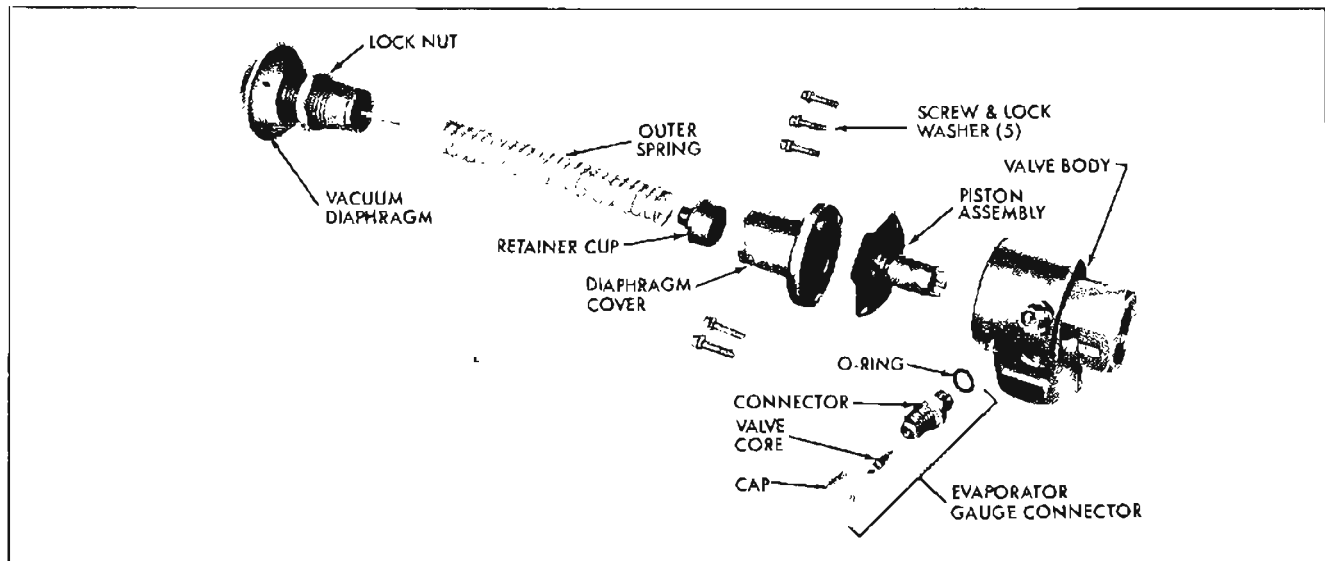

Figure 11-112—Suction Throttling Valve (Exploded View)
1. Loosen lock nut and unscrew and separate vacuum diaphragm (see Figure 11-112) and outer spring from suction throttling valve.